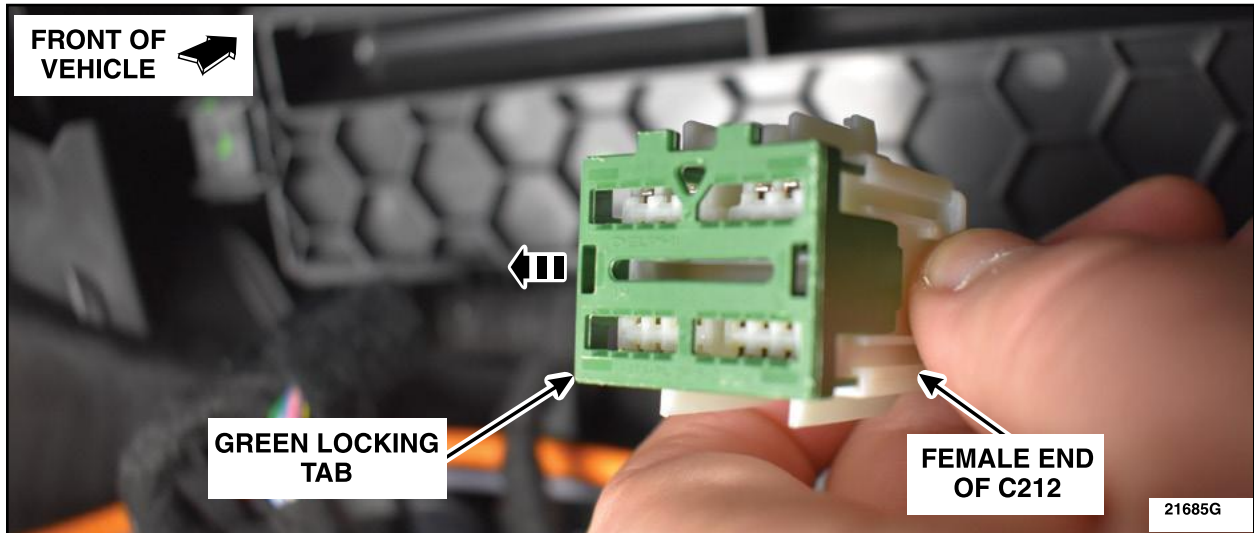

FIGURE 6
10. Remove the green locking tab on the female end of C212. See Figure 6.